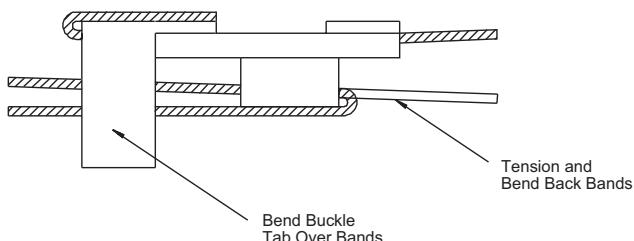

Figure 1: Bending Method
1. Cut the structural band strap into two (2) 1.5 m (5 ft) straps.
2. Attach the bracket to the pole at the band desired height using the two (2) straps and the two (2) buckles provided.
3. Tension the straps according to the instructions for the banding tool used. Banding tool, TC9311PM3T, is recommended and may be purchased separately. A BAND-IT[®] Tool instruction chart is provided with each pole mount. The ends of the bands are bent around the buckle (see *Figure 1*).